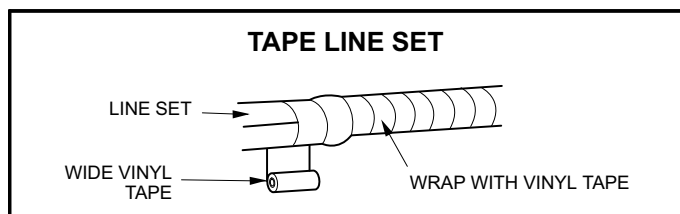

FIGURE 44
3. Start from the bottom at the outdoor unit and use tape to bundle the insulated line set together with tape (figure 44).